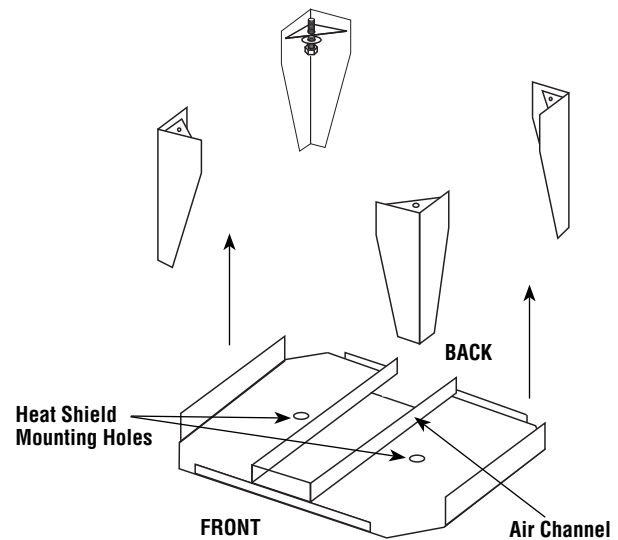

Figure 10
4. Use the two bolts and washers provided with the heatshield kit to mount the heatshield as shown in **Figure 10**.